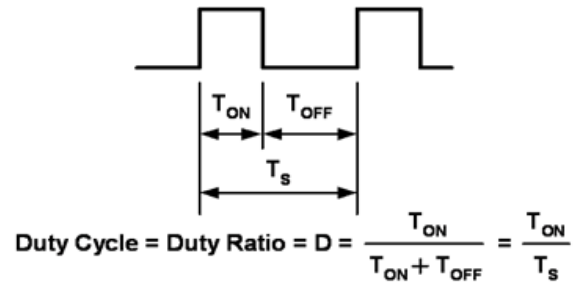

Figure 12.
LEDs on and off for a portion of a single cycle. This on/off cycle is called the Duty cycle (D) and is expressed by the amount of time the LEDs are on ( $T_{ON}$ ) divided by the total time of an on/off cycle ( $T_s$ ) (Figure 12).